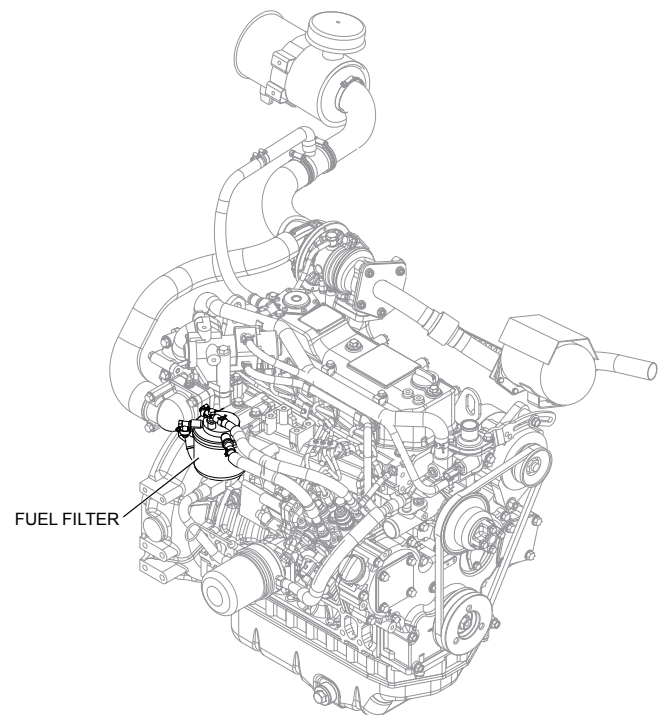

Figure 26. Fuel Filter
1. Replace the engine fuel filter element (Figure 26) every 500 hours.